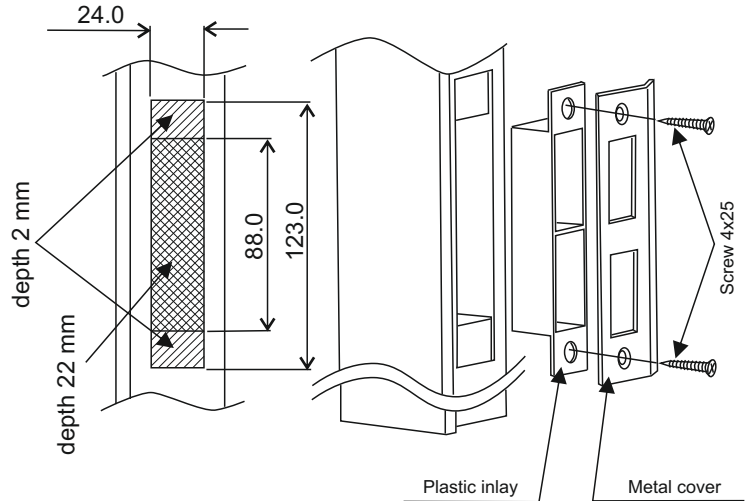

Fig.4
3. Install metallic latch cover over the latch and fix it to the door frame, see Fig. 4.